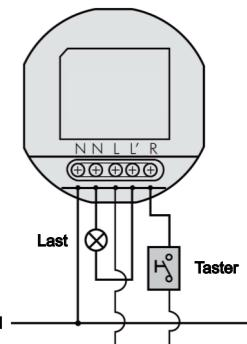
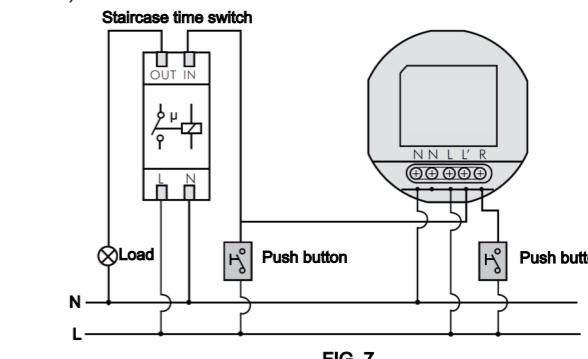

FIG. 5
FIG. 7
3.3.1 Normal operation (See FIG.5)
3.3.3 One detector controls staircase time switch (Time knob sets at 1s) (See FIG.7)
3.4.1.2 Unscrew the terminal and refer to the wiring diagram (See FIG.5 - FIG.7) to insert the power cables into the corresponding terminal blocks.